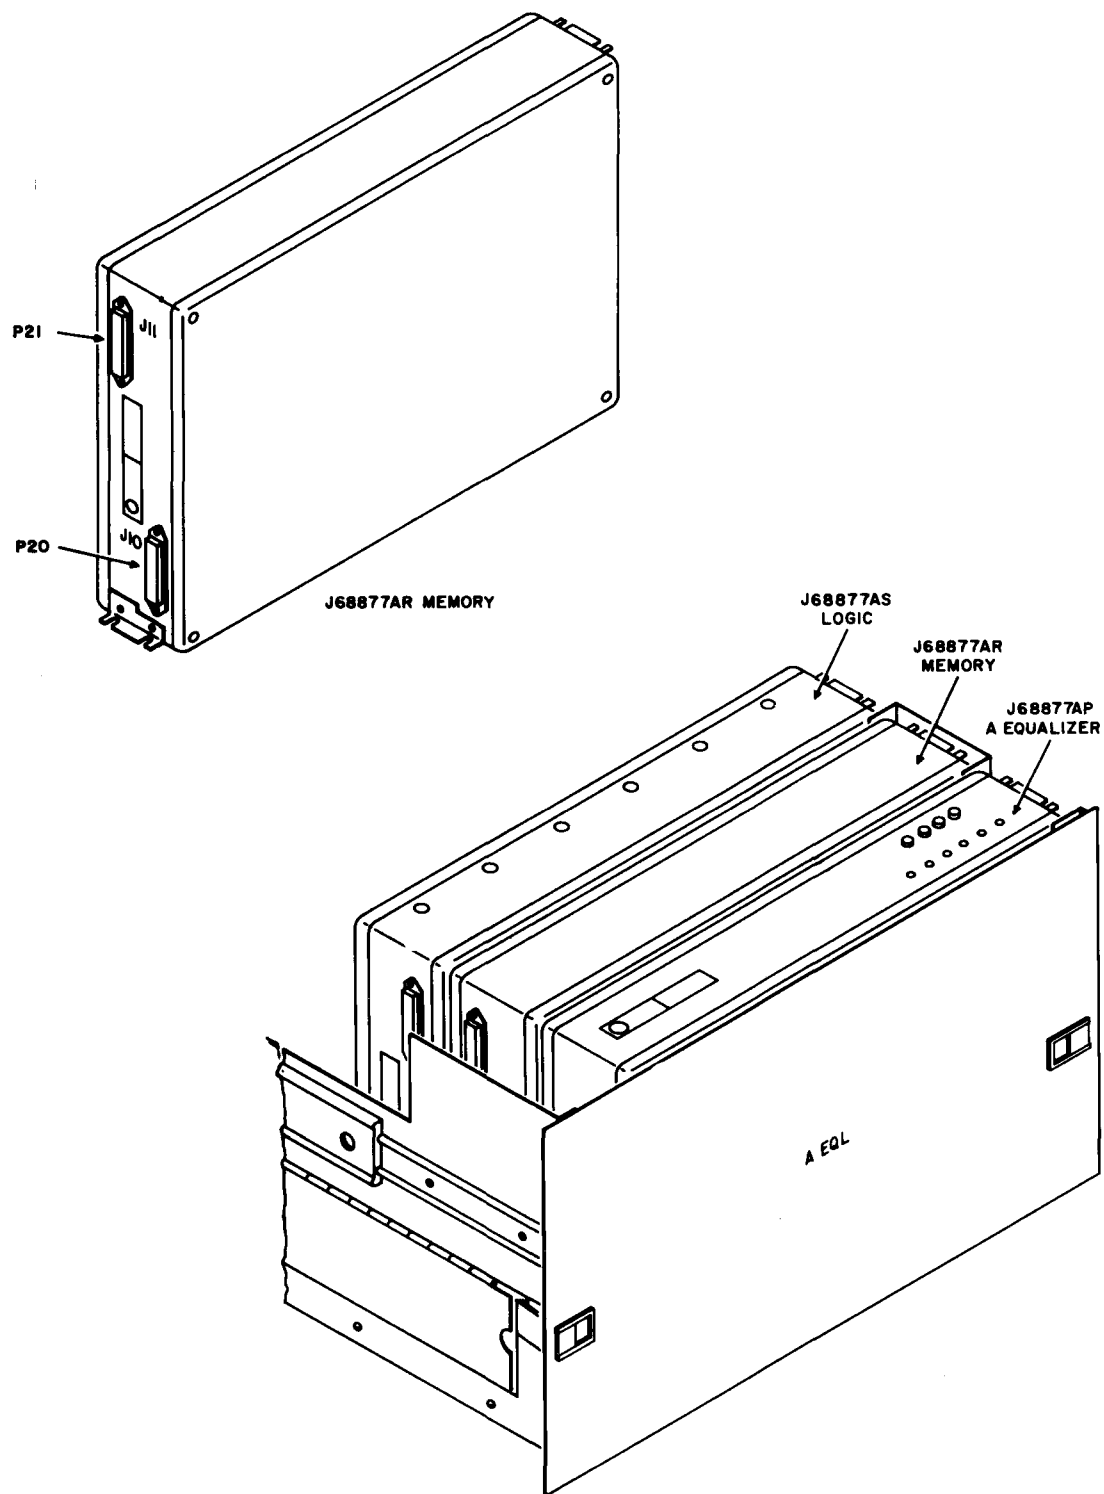

Fig. 9—A Equalizer Memory J68877AR
B. Memory J68877AR (Fig. 9)
Note: Access to jack J10 is via a piano-hinged flap on the left side of the A equalizer shelf (Fig. 9).